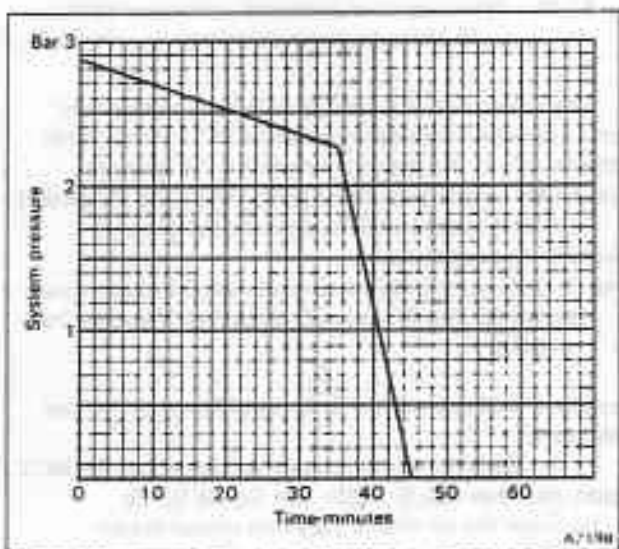

Fig. B2-32 Fuel system 'leak down'
6. Note the time taken for the pressure to fall to zero and compare this time with the data given in figure B2-32.